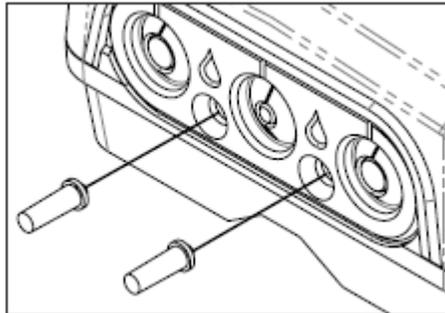

Figure 2d
4. If installing in a high-humidity area, one or both of the optional drain holes can be opened by pulling away nubs found on the cable grommet, as shown in Figure 2d.